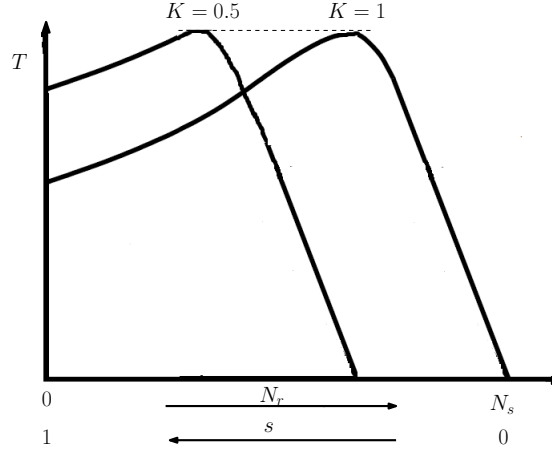

Figure 3: T - N_r characteristics of a three phase induction motor with V/f control
So with V/f control, the maximum torque developed is independent of K , but s_m is inversely proportional to K . From (9), for any given torque, T , the drop in motor speed from no load speed, (sK) will be same for any value of K . Thus, with V/f control, the T - N_r characteristics for different values of K will be parallel to each other as shown in Fig.3.